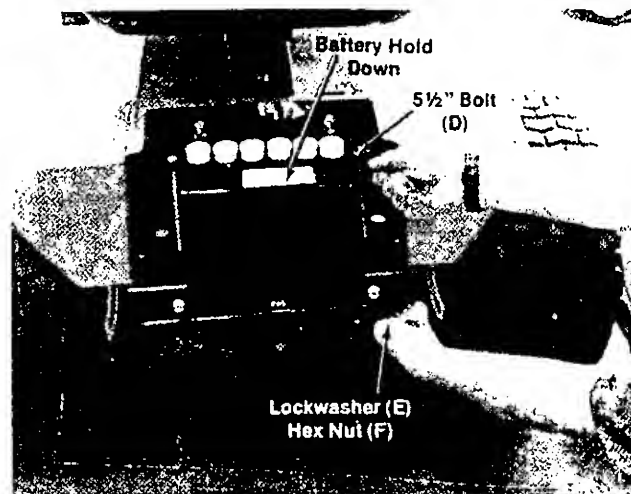

FIGURE 7.
4. Place the rear hitch bracket in position on rider and secure with hex screws (B) and locknuts (D). See figure 7.
3. Place the battery hold down over battery and secure in place with hex screws (D) 5½ inches long, lockwashers (E), and hex nuts (F). See figure 7.